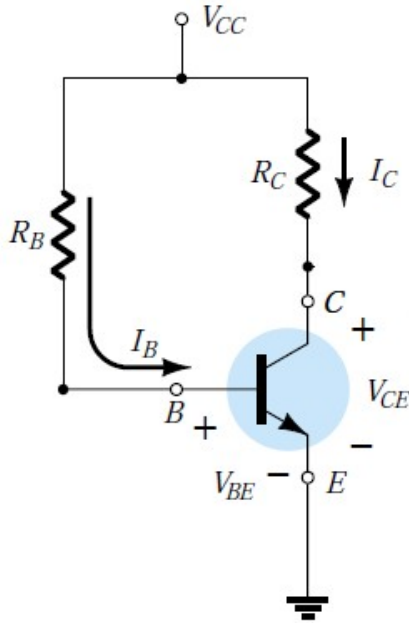

Figure 7.3 Common Collector Circuit*
2. Build the circuit as shown in Fig. 7.3 in Multisim and calculate all parameters as discussed in step 1.
4. Build the circuit as shown in Fig. 7.3 in Lab and calculate all parameters as discussed in step 1.